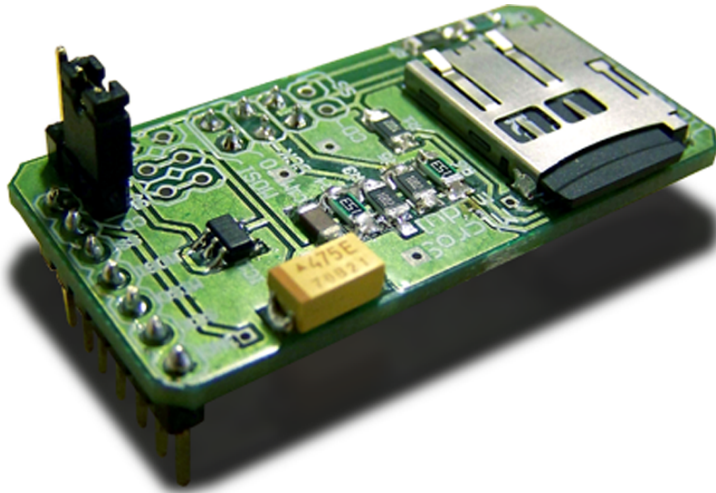

Figure 13-7: Cooking Hacks MicroSD shield
- **Cooking Hacks Micro SD shield** (www.exploringarduino.com/parts/cooking-hacks-SD-shield): This shield is used to illustrate the examples in this chapter. This is the smallest shield of those listed here (not a full-sized shield), and it can be connected to either a row of header pins (8–13 on the Uno), or to your Arduino's ICSP 6-pin header. When connected to pins 8–13, the default pin 10 is connected to CS. When connected to the ISP header, the CS pin can be connected to any pin you want. This is useful if you are utilizing another shield that requires the use of pin 10. This board ships with a 2GB SD card (see Figure 13-7).